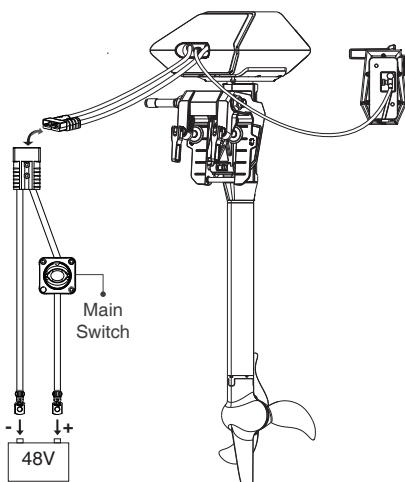
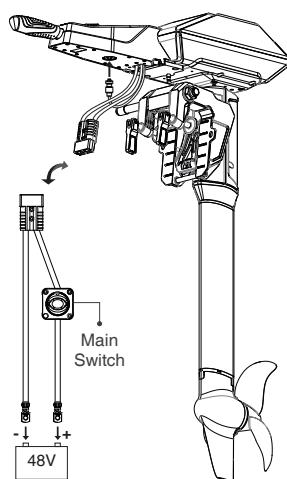

Figure 5-14
Figure 5-15
Step2: Connect NAVY outboard and Remote Control/Tiller Handle with a communication cable. Please refer to Figure 5-14 or Figure 5-15.